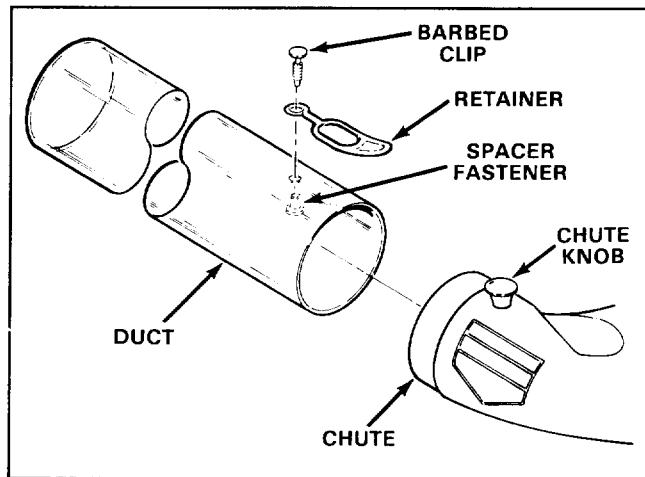

Figure 5
- Secure retainer to duct with barbed clip and spacer fastener (Fig.5).
- Slide duct onto chute assembly, aligning duct retainer with chute knob. Hook retainer onto knob, securing assemblies (Fig.5).